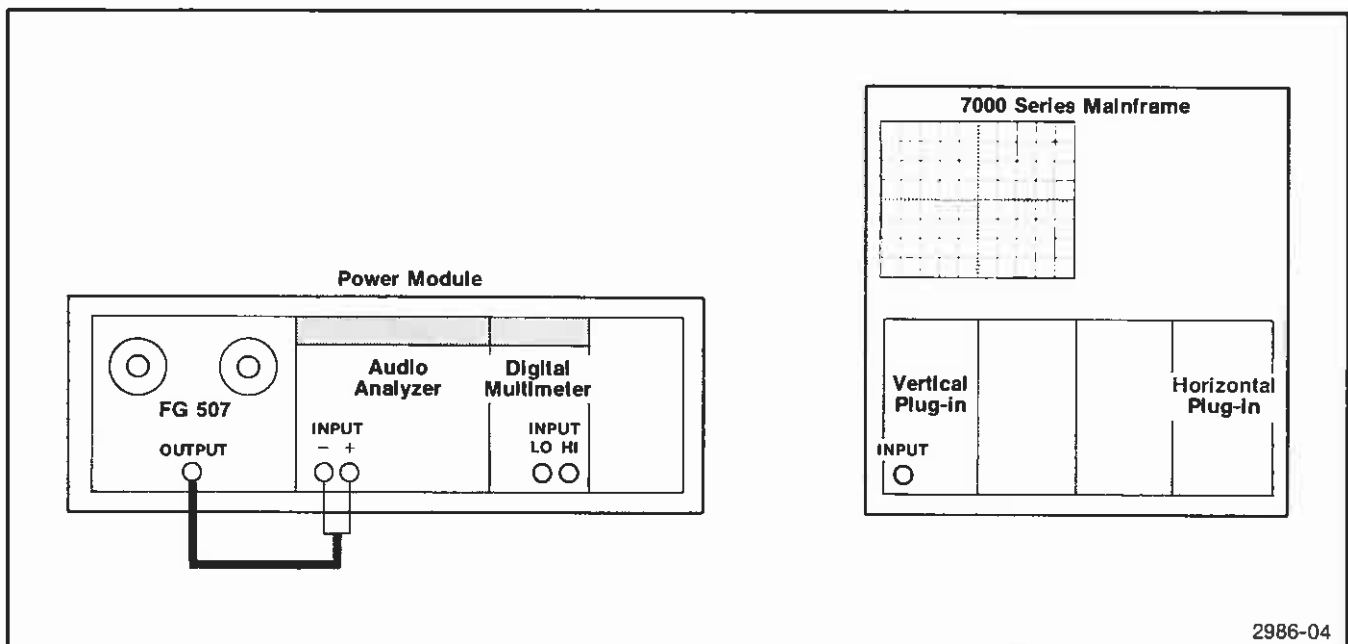

Fig. 4-2. Test setup for SINE DISTORTION adjustment.
- Remove the vertical plug-in INPUT connection and re-connect to the audio analyzer using a bnc to banana plug adapter. Refer to Fig. 4-2 check setup.
Refer to Fig. 4-2 test setup and preliminary control settings with the following exceptions.
Refer to Fig. 4-2 test setup.